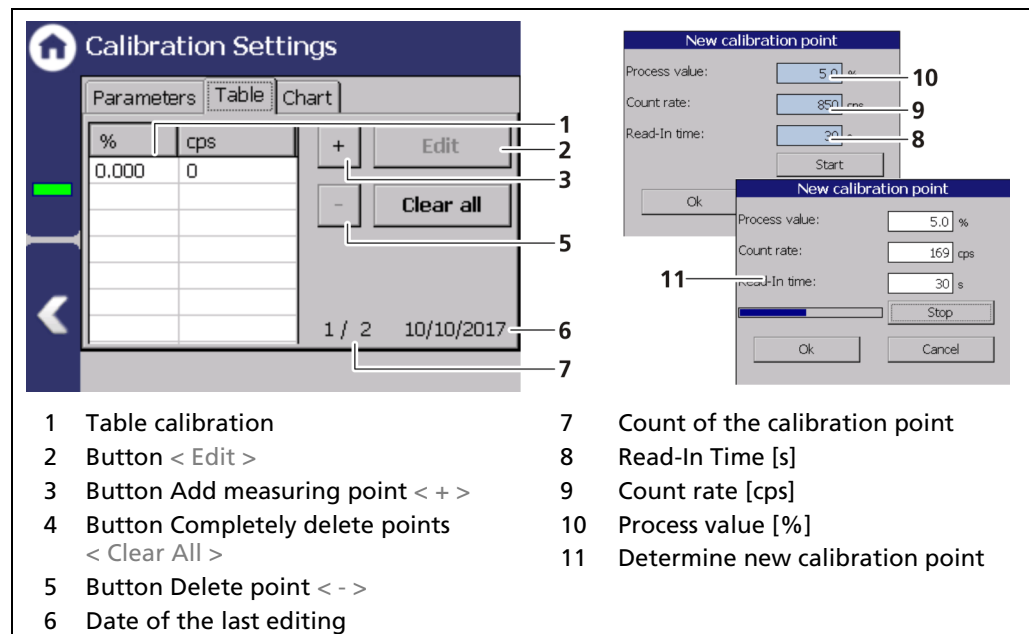

Fig. 80 Calibration Parameters (Table 2 Point Exp. calibration type)
1. Click on the button < + > (Fig. 80, item 3).
- ▶ The window "New calibration point" (Fig. 80, item 11) opens.
2. Click on the input field "Process value" (Fig. 80, item 9) to open the input field.
4. Click on the input field "Read-In Time" (Fig. 80, item 10) to open the input field.
- ▶ The Window "New calibration Point" (Fig. 80, item 11) opens and the count rate is determined.
- Click on the input field "Read-In Time" (Fig. 80, item 8) to open the input field.
- Click on the input field "Process value" (Fig. 80, item 6) to open the input field. Specify the current, actual level in percent and confirm with the Enter key.